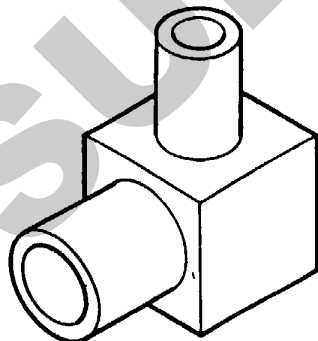

Figure 1
4.1 *reducing elbow weld fittings* — machined fittings shaped like the letter "L", for welding tubes in a right angle. (see Figure 1)